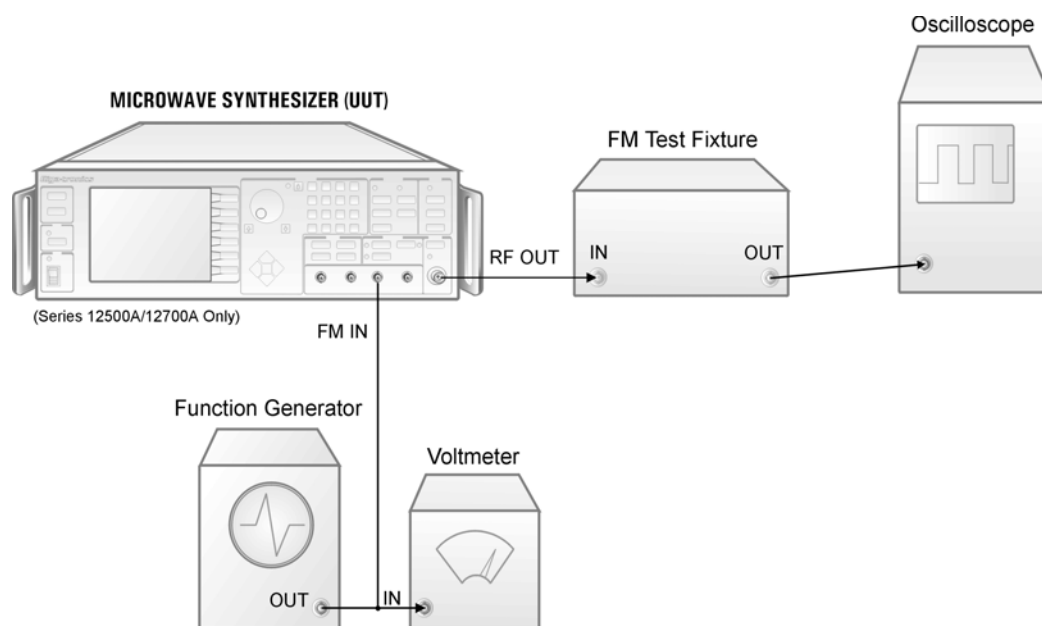

Figure 2-7: Frequency Modulation Test
1. Connect the FM test fixture to the RF OUT connector of the 12000A as shown in Figure 2-7. Monitor the mixer output with the oscilloscope (5 mV/div). Set the 12000A to any null frequency between 4.0 and 7.99 GHz (that is, at a frequency where the mixer output voltage is zero); +10 dBm out, no modulation.